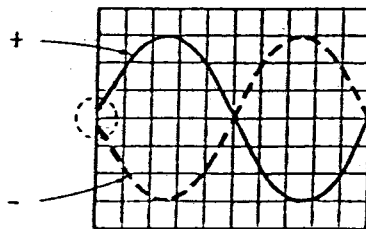

Figure 3-3
- Adjust VR302, SLOPE(T-4480, main board) for the sine wave to start at the same vertical point, or slightly apart as shown in Figure 3-3.